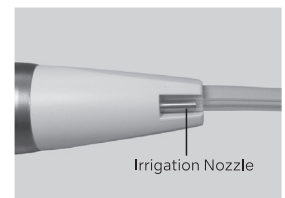

Fig.4
- 4 Insert the other Irrigation Tube tip into the handpiece Irrigation Nozzle. (Fig.4)